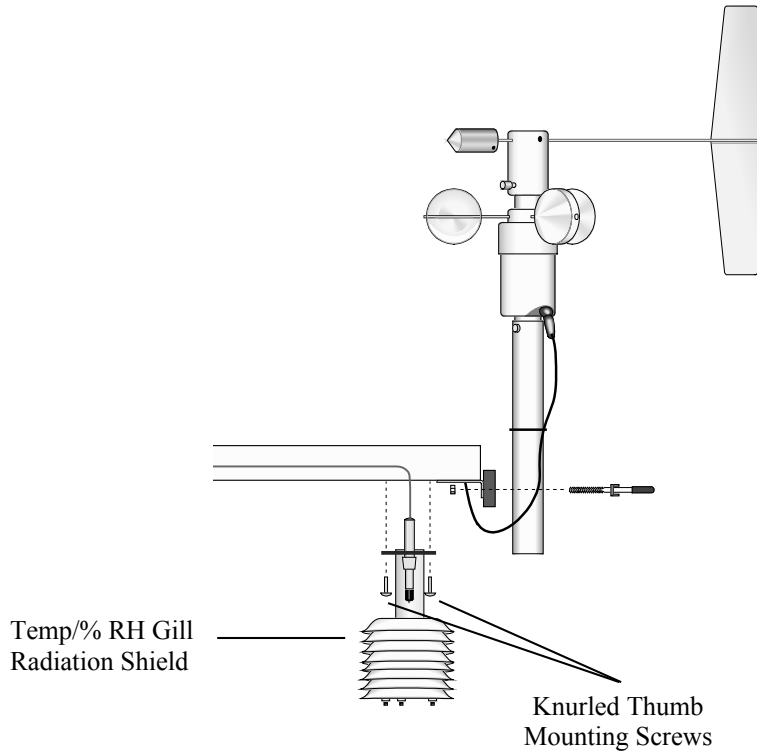

FIGURE 2-11. Wind and RH/Temperature Sensor Installation
1. Install the 034B Wind Sensor as shown in FIGURE 2-11 after the sensor arm is securely installed.
3. Insert the mounting shaft through the U-Bolt on the sensor arm. Adjust the mounting shaft so that the cable and connector coming out the end of the sensor arm can plug easily into the mating connector on the 034B. Lightly tighten up the U-bolt clamp nuts. See FIGURE 2-11.